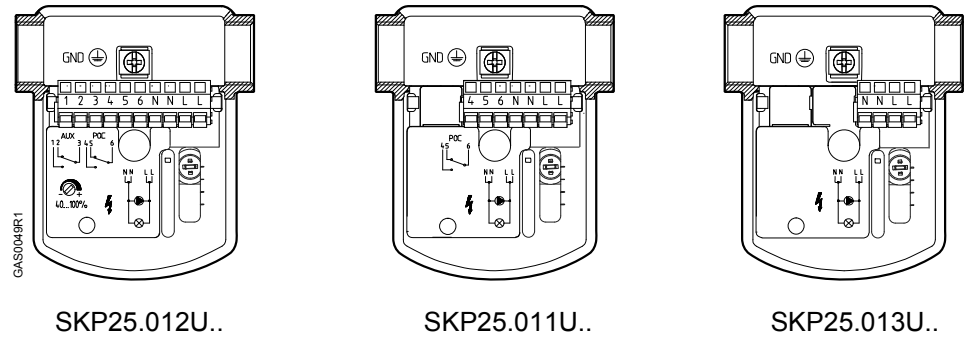

Figure 2. Terminal Designations.
- Adjust the auxiliary switch (if provided) according to the wiring diagram on the label below the terminals (see Figure 2). The adjustment screw and scale are located on the right side of the terminal box, and are visible through the transparent portion of the terminal cover.